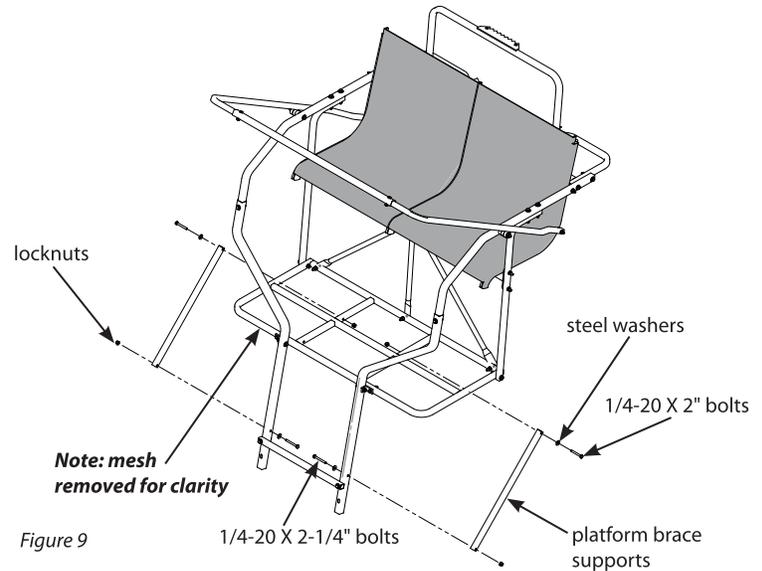

Figure 9
14. Attach the platform brace supports (15097) to both the platform and flared rails using (2) provided 1/4-20 x 2" bolts, steel washers, and locknuts at the platform holes, and (2) 1/4-20 x 2-1/4" bolts, steel washers, and locknuts at the flared rail end. **SEE FIGURE 9.** **You must now tighten all nut and bolt assemblies. Be sure not to over tighten or crush tubing when tightening.**